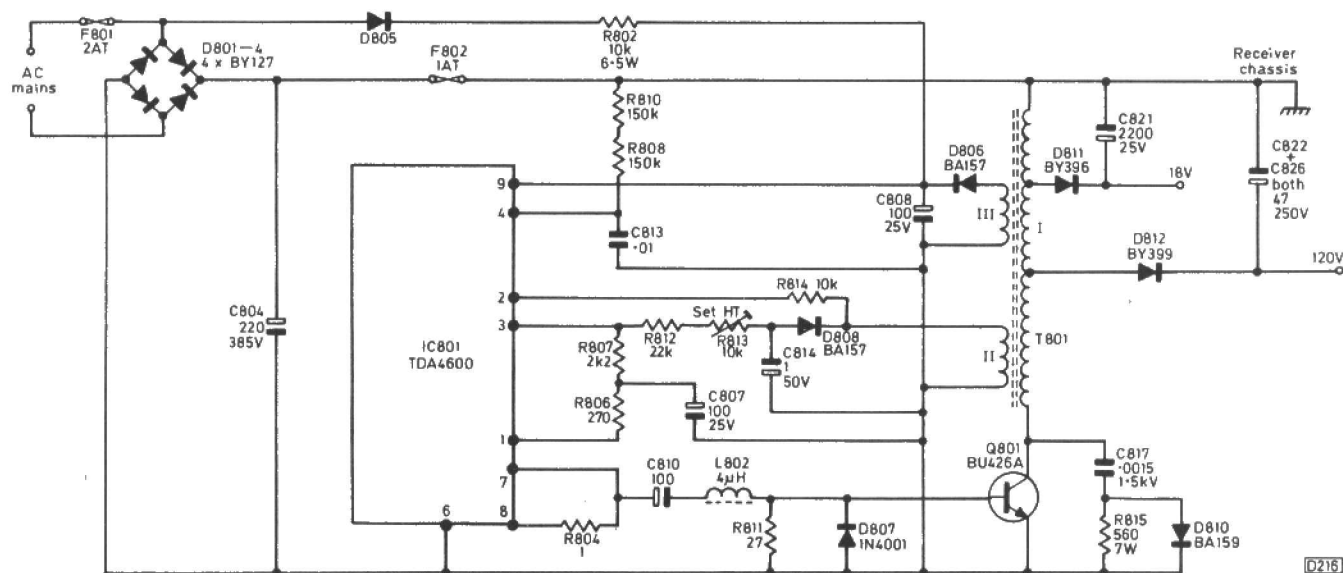
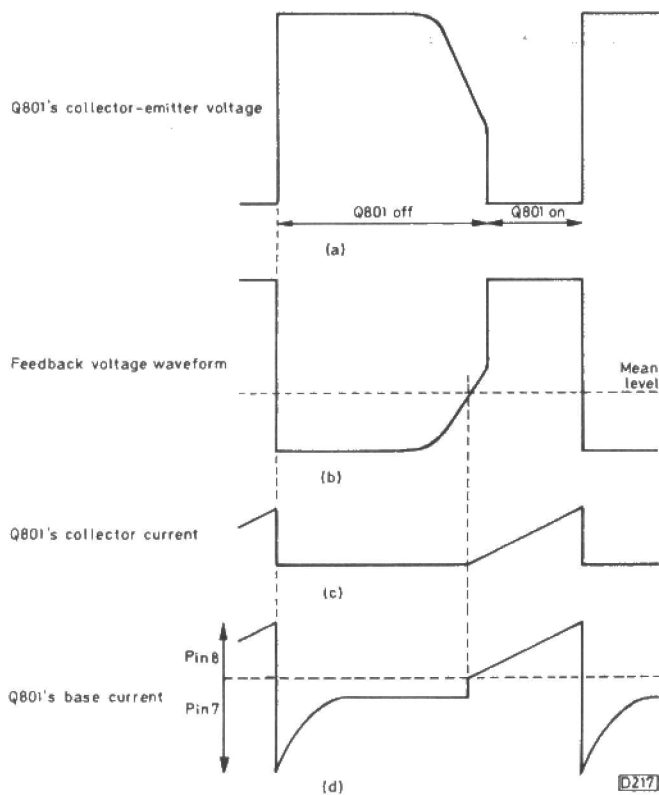

Fig. 13: Simplified circuit of the free-running switch-mode power supply.
Fig. 14: Switch-mode power supply waveforms.
A simplified circuit of the power supply is shown in Fig. 13. The output section consists of the chopper transistor Q801 and its load transformer T801. It operates as a flyback converter, the energy stored in T801 when the chopper transistor is conductive being transferred to the load (i.e. the TV set) when the chopper transistor switches off. Fig. 14 shows the basic waveforms. The diode bridge D801-4 charges the reservoir capacitor C804 from the mains – note that the positive plate of this capacitor is connected to the receiver's chassis, as a result of which the power supply circuitry is at some -300V with respect to chassis. Most of us have had at least one belt from this arrangement during development, so be warned! Don't think you're out of trouble when the set is switched off either, because C804 retains its charge. We added a $180\text{k}\Omega$, 1W resistor across C804 to provide a discharge path when the set is switched off, but this still takes a few seconds. So check with an AVO before diving into the chassis – the heatsinks for the chopper transistor and the control i.c. are both connected to the negative supply line.
D812 conduct, charging their reservoir capacitors C821 and C822 + C826 from the energy stored in the transformer. After a while the energy begins to run out, the field around the primary winding starts to collapse, and the chopper transistor's collector voltage starts to fall – see Fig. 14(a). The shape of the waveform at this point resembles part of a sinewave, C817 acting as a tuning capacitor. The feedback winding (II) on the transformer feeds a smaller, inverted version of this waveform – see Fig. 14(b) – to pin 2 of the control i.c., via R814. Within the i.c., a zero-crossing detector senses the point at which the feedback waveform crosses the 0V line (mean level). When this occurs, logic circuitry in the i.c. switches on the base drive current to the chopper transistor, via pin 8 and R804. Q801's collector current then rises linearly – see Fig. 14(c) – since it's driving an inductive load.
Q801's on time depends on the mains voltage and the load conditions – in other words on the amount of energy required to maintain the output voltages. The transistor is turned off by a current flowing via pin 7 of the i.c. – see Fig. 14(d). The cycle is then repeated, the frequency of oscillation and the mark-space ratio altering with mains voltage changes and load variations. L802, R811 and D807 are included to improve Q801's turn-off behaviour.
We mentioned earlier that when Q801 switches on its collector current rises linearly. To avoid its base over saturating – which would slow down the current turn-off – the i.c. provides a linearly rising base current drive, as shown in Fig. 14(d). In order to sense how much drive to provide, the RC network R808/R810/C813 feeds a sawtooth voltage to pin 4 of the i.c. The voltage across C813 is proportional to Q801's collector current and to the mains voltage. If the mains voltage increases for example, Q801's collector current will rise at a greater rate: the slope